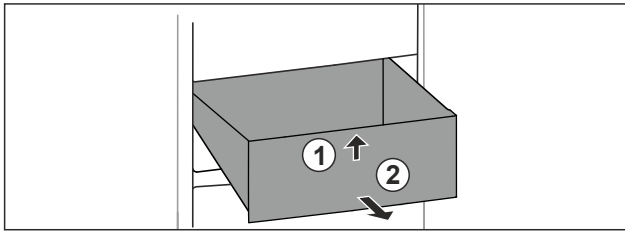

Fig. 76
- Lift up drawer at the front. Fig. 76 (1).
- Remove drawer to the front. Fig. 76 (2).